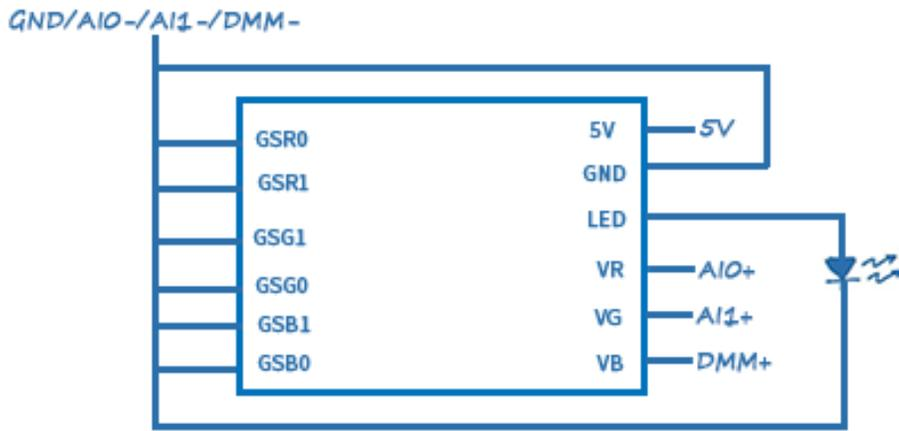

Figure 2 Color sensor wiring diagram
**Step 1:** Using Figure 2, wire the color sensor to your myDAQ. Feel free to use the myProto to make your connections. Make sure the LED is wired; this will provide a constant source for anything the sensor needs to analyze.